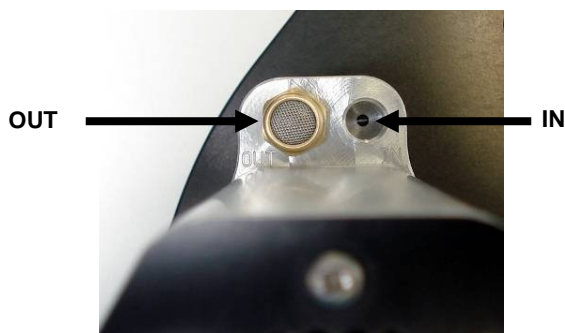

Fig. 1
2. Connect compressed air supply to connection labeled 'IN' located at actuator, see Figure 1 below. Connect compressed air return line connection labeled 'OUT' located at actuator, see Figure 1 below. Compressed air pressure (above ATM) must be in the range of: **4 - 7 bar / 55 - 100 psi**. Use only clean, dry or slightly oiled air. IN / OUT connections are 1/8" ISO/NPT internal threads.